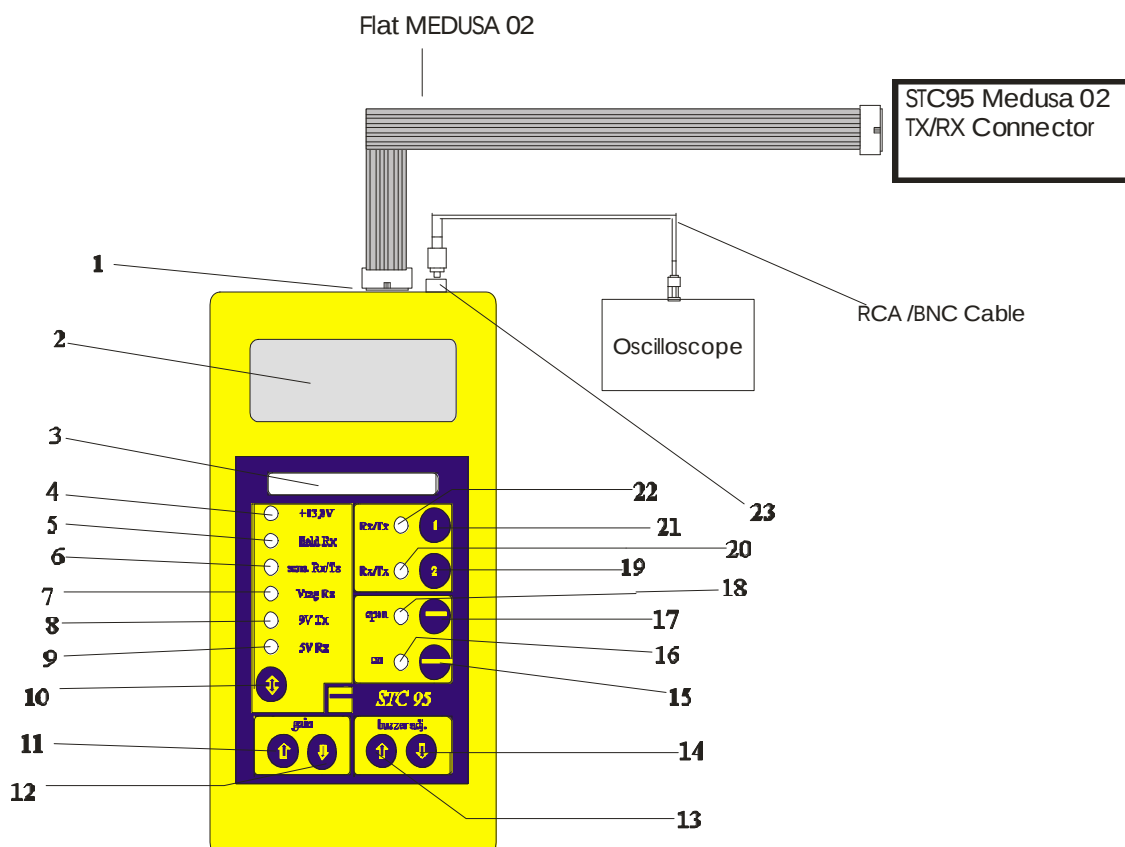

Fig 1
5.4 - Premere il tasto “ $\updownarrow$ ” (10) del STC 95 fino ad ottenere l'accensione del led “**field Rx**” (5) (fig.1). Verificare che la tensione letta sul display sia 6 Vcc + 10%.
(The designation of the LEDs and keys is shown in fig. 1)
3.1.3 – Press key “ $\updownarrow$ ” (10) to select the test (fig.1) till the power supply voltage test indicating LED “**+13.8V**” (4) lights up. The voltage read on the display (2) must be 13.8 Vdc $\pm 10\%$.